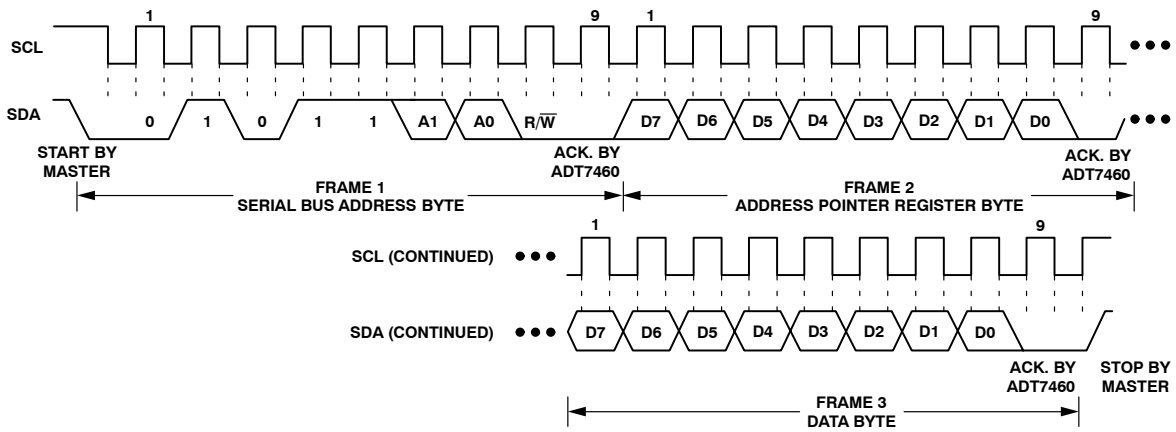
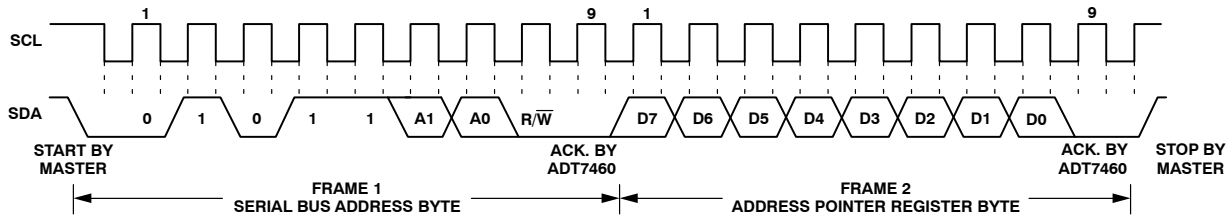
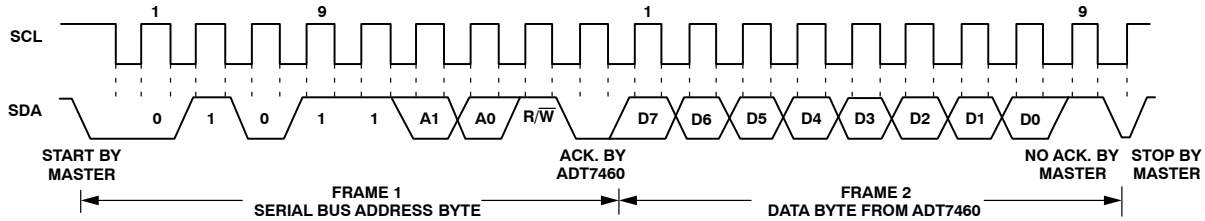

Figure 17. Writing a Register Address to the Address Pointer Register, then Writing Data to the Selected Register
Figure 18. Writing to the Address Pointer Register Only
Figure 19. Reading Data from a Previously Selected Register
This is illustrated in Figure 17. The device address is sent over the bus followed by R/W being set to 0. This is followed by two data bytes. The first data byte is the address of the internal data register to be written to, which is stored in the address pointer register. The second data byte is the data to be written to the internal data register.
1. If the ADT7460's address pointer register value is unknown or not the desired value, it is first necessary to set it to the correct value before data can be read from the desired data register. This is done by performing a write to the ADT7460 as before, but only the data byte containing the register address is sent because data is not to be written to the register. This is shown in Figure 18. A read operation is then performed, consisting of the serial bus address, R/W bit set to 1, followed by the data byte read from the data register. This is shown in Figure 19.
2. If the address pointer register is known to be already at the desired address, data can be read from the corresponding data register without first writing to the address pointer register, so Figure 18 can be omitted.
In Figure 17 and Figure 19, the serial bus address is shown as the default value 01011(A1) (A0), where A1 and A0 are set by the address select mode function previously defined.